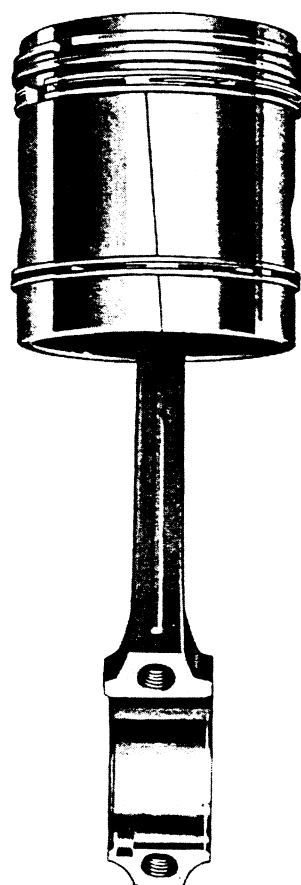

FIG. 35
4. Remove each piston in turn, and, holding connecting rod in position, insert appropriate gudgeon pin so that the split in the piston skirt is on the same side of the rod as the bearing cap, as shown in Fig. 35. If a new connecting rod is used, it must be marked to indicate its intended position.